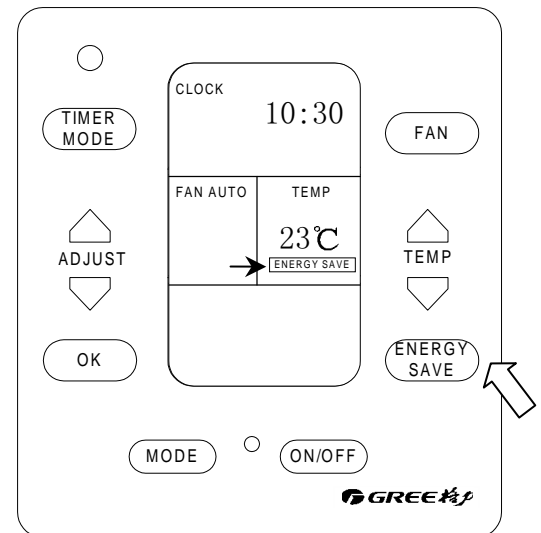

Fig.11: set the unit at energy save mode.
- ❖ Press the “ENERGY SAVE” button, the unit will run in the **ENERGY SAVE** mode and **ENERGY SAVE** will light up.(Fig.11)